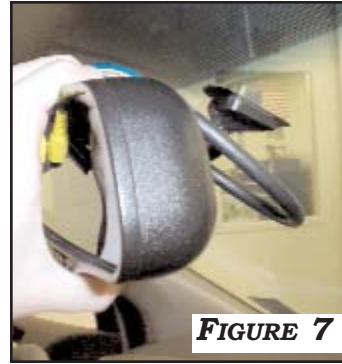

FIGURE 7
1. MOUNT REAR SIGHT MIRROR ON EXISTING WINDSHIELD LUG AND TIGHTEN SCREW. **FIGURE 7**